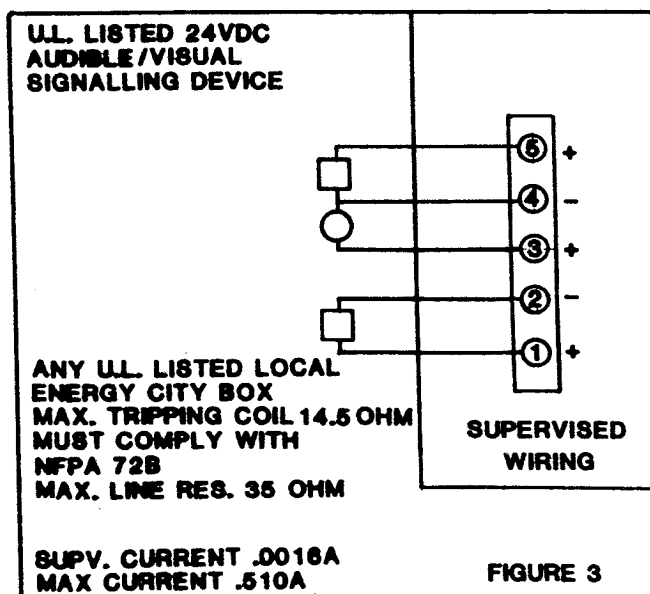

FIGURE 3
2. AUXILIARY ALARM OUTPUTS (Fig. 3)
1. MUNICIPAL BOX CONNECTION (Fig. 3)
Terminal 4 is negative (-) and terminals 3 and 5 are positive(+). Connect any of the following compatible devices to the terminals per Figure 3.
2.1 PRE-SIGNAL FEATURE (Fig. 3)